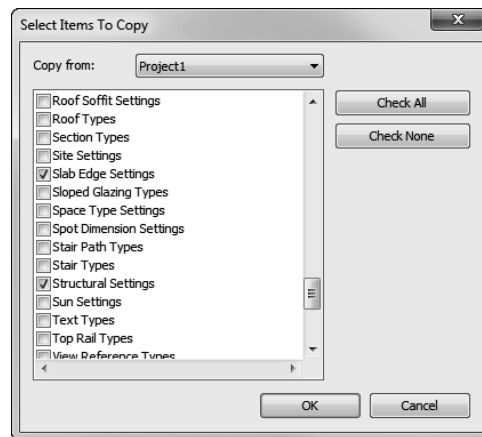

FIGURE 7-2.1 Transfer project settings
8. Check only the boxes for the items listed (Figure 7-2.1):